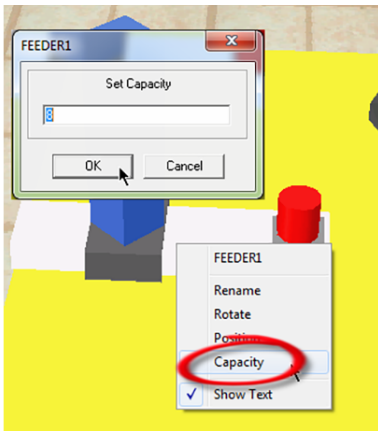

Figure 1. Feeder Popup
- In the FEEDER1 properties list, select **Capacity** and enter 8 in the Set Capacity field (Figure 1).